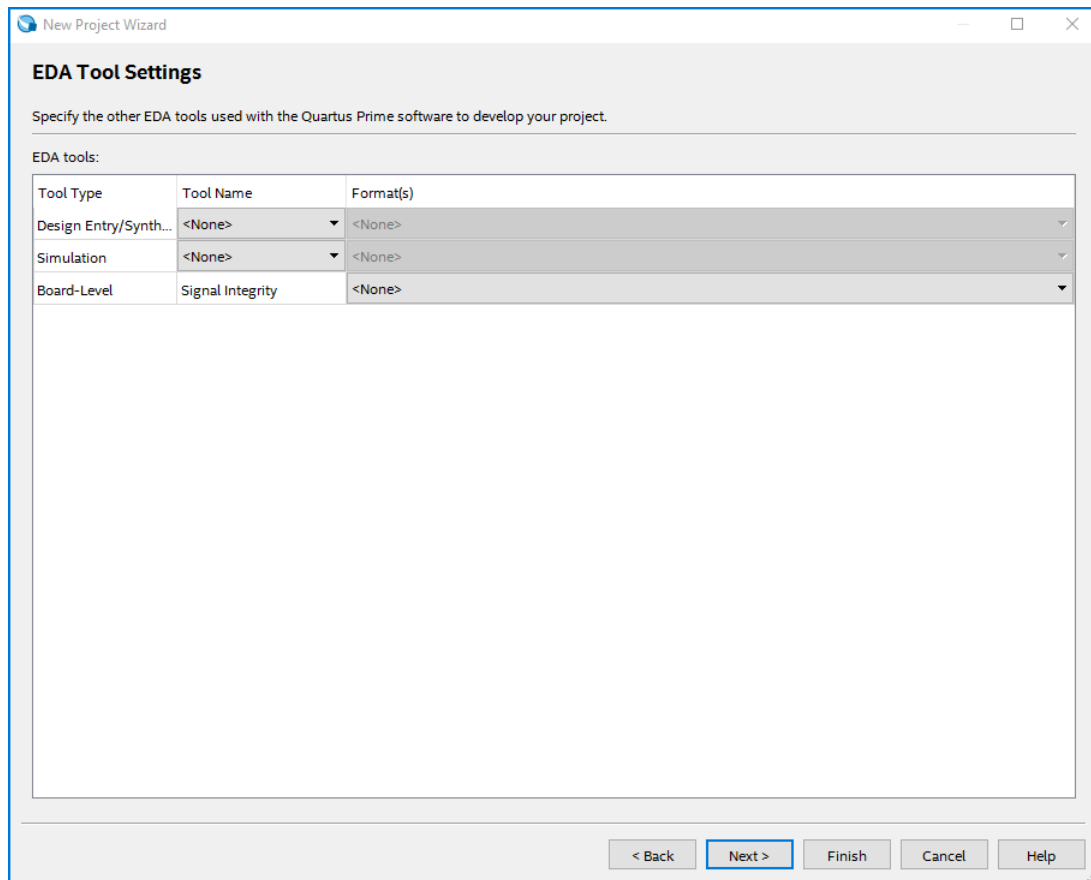

Figure 9. Other EDA tools can be specified.
- We have to specify the type of device in which the designed circuit will be implemented. Choose the Arria-series device family for your DE-series board. We can let Quartus Prime software select a specific device in the family, or we can choose the device explicitly. We will take the latter approach. From the list of available devices, choose the 10AX115N3F45E2SG for your DE5a-NET board. Press **Next**, which opens the window in Figure 9.